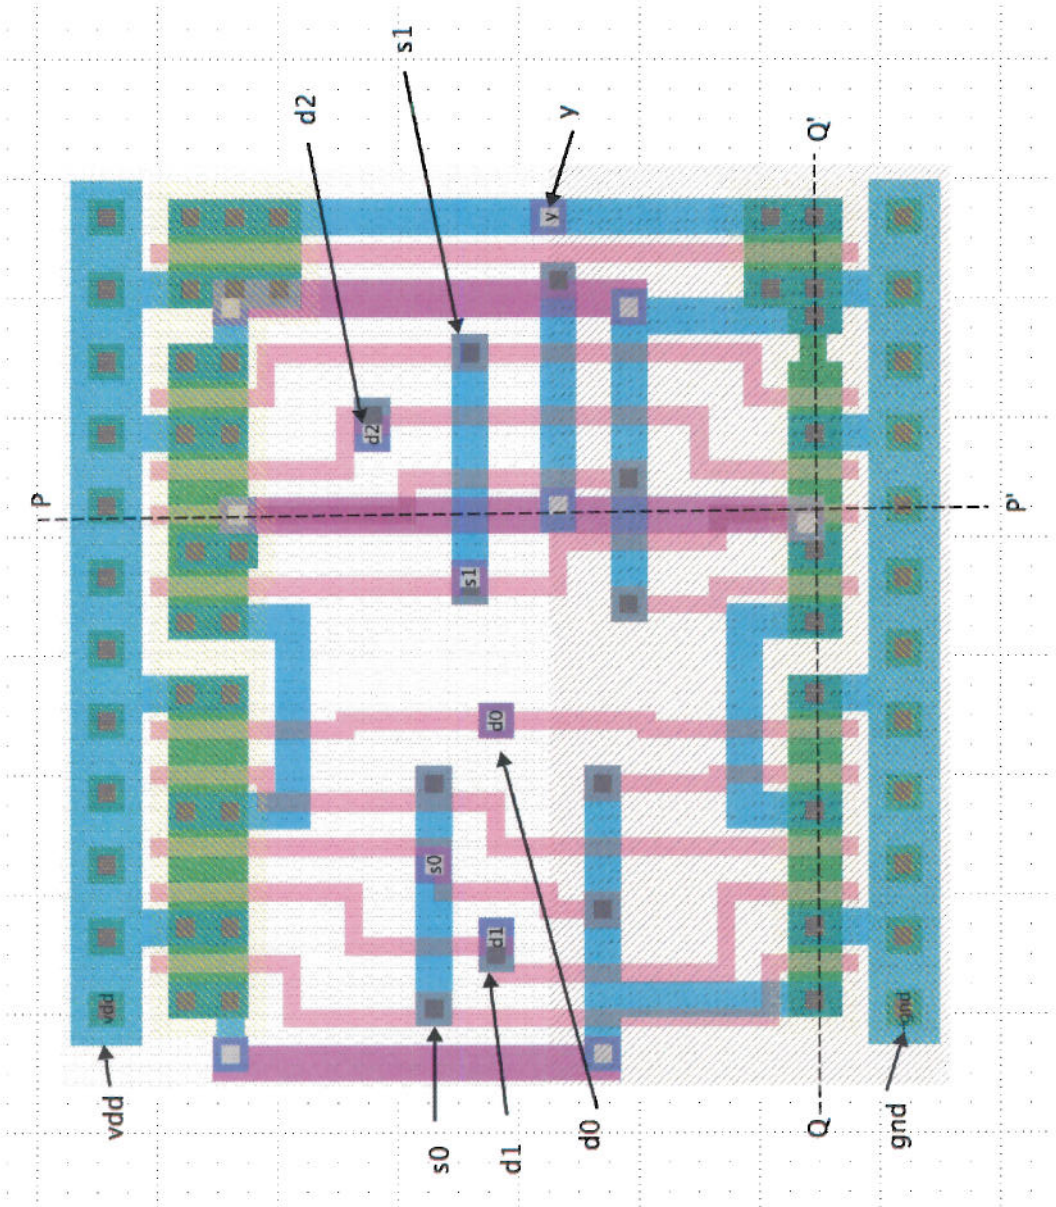

Figure 1.1 Layout of full-custom cell for Question 1
1. a) *Figure 1.1* (see the colour supplementary sheet) shows the layout of an n-well CMOS circuit with five input terminals: d0, d1, d2, s0 and s1 and one output y. Extract and draw the transistor-level schematic diagram of this circuit. Note that the supply signals are labelled as vdd and gnd.
- c) For the layout shown in *Figure 1.1*, draw the vertical cross section along the lines PP' and QQ'. Label your diagram indicating the n-well region and the different types and levels of doping (e.g. p⁻, n⁺ etc).